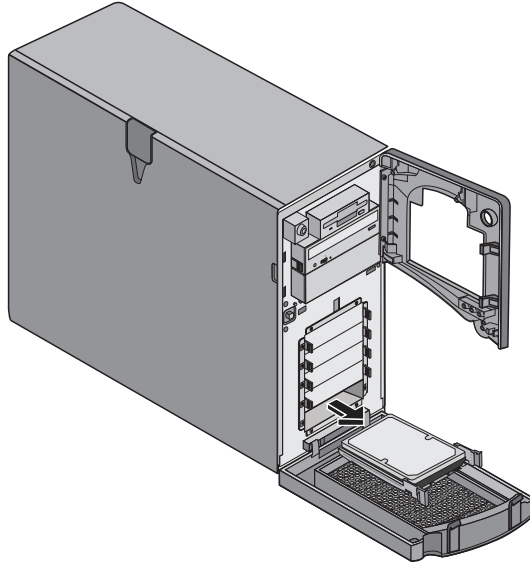

Figure 2-8: Removing cold swap hard drive
6. Use your hand to support the bottom of the drive, while you slowly pull the drive straight out. Refer to Figure 2-8.